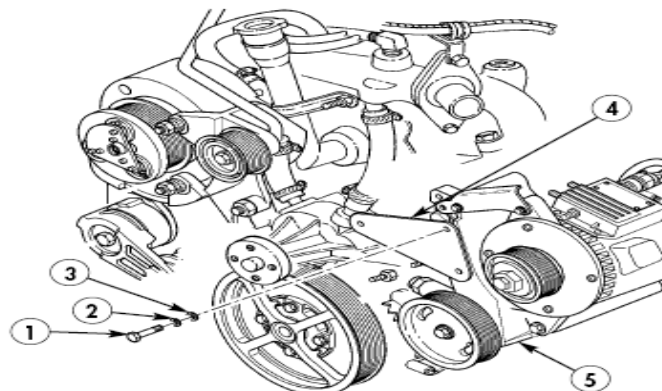

Figure 11
k. Removal of Idler Pulley Bracket. TM 9-2320-387-24-1, Chapter 3, Task Para 3-82.7, Page 3-146 and **Figure 11** contained in these instructions.
(1) Remove screw (1), washer (3), lock washer (2), and idler pulley bracket (4) from alternator/pump support (5). Discard lock washer (2).